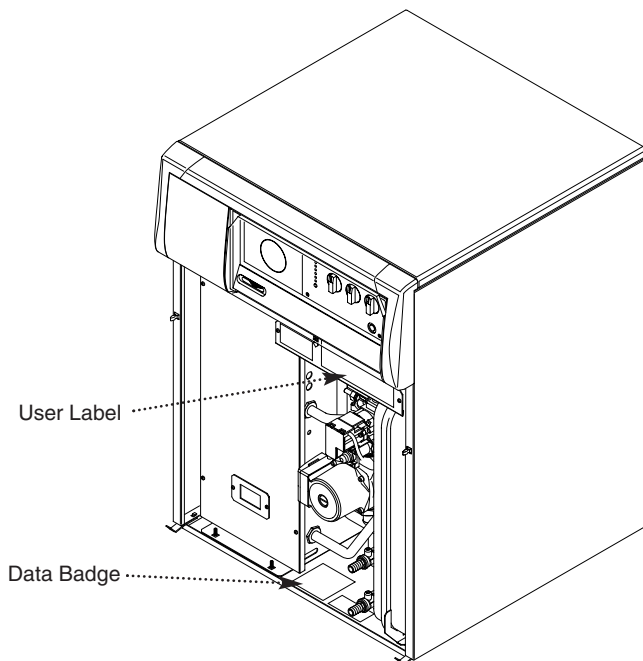

Fig. 2
7. A label giving details of the model, serial number and Gas Council number is situated on the wiring cover panel (Fig. 2).
8. The boiler data badge is positioned on the boiler base panel (Fig. 2).